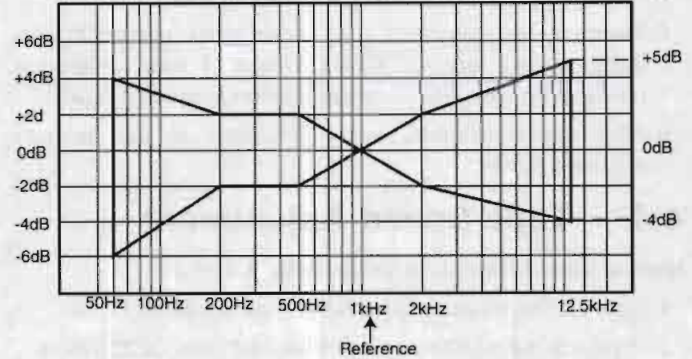

Fig. 11
4. Repeat steps 3 to 5 for each tape and confirm that the output for each is within the range of the overall frequency response shown in Fig. 11.